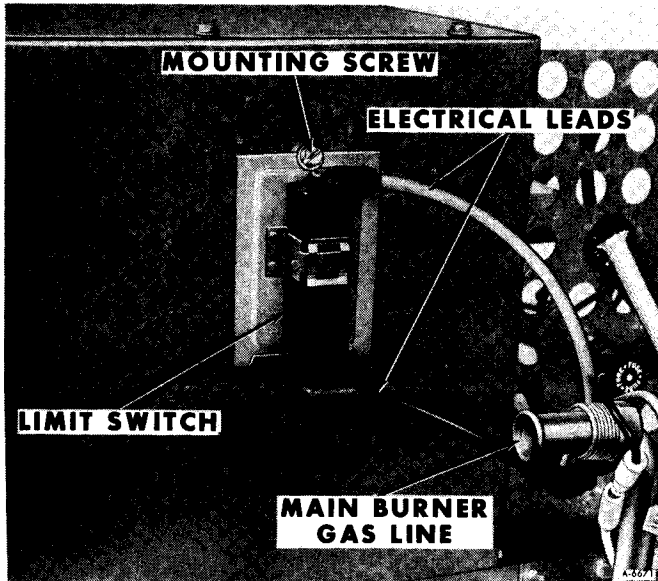

Figure 12—Limit Switch Installed
2. Disconnect electrical leads from limit switch (figure 12).
1. Carefully install limit switch into opening on front of combustion chamber assembly. Retain switch in position with mounting screw (figure 12).